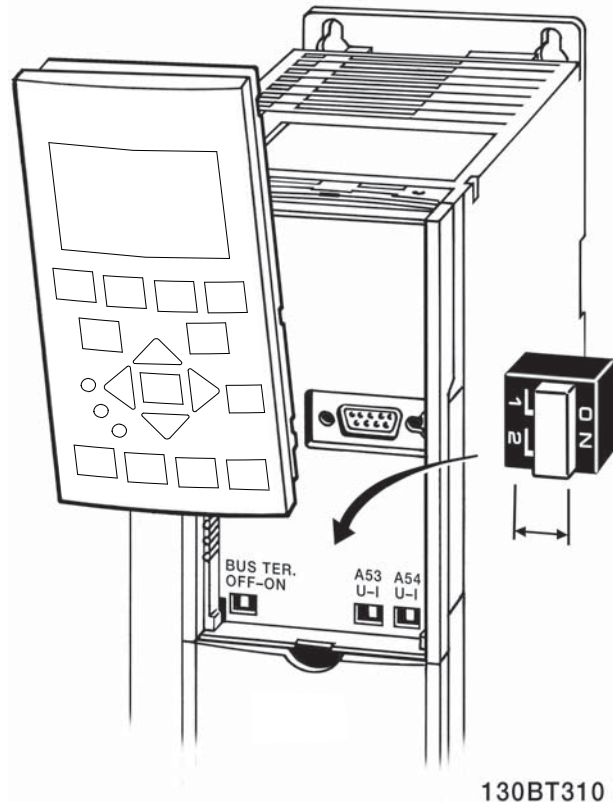

Figure 2.23 Location of Terminals 53 and 54 Switches and Bus Termination Switch
- The switches are accessible when the LCP has been removed (see *Figure 2.23*).